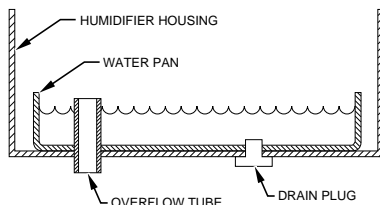

Fig. 12
3. Drain water from the unit. Place a pail underneath the drain plug located on the bottom of the humidifier cabinet. Lift the tab on the drain plug and remove the plug. Allow all water to drain from the unit. (See Fig. 12.)
- Clean the water pan and unit cabinet. Tilt the water pan and lift it from the unit. Wash the pan with warm, soapy water. Flex the pan to loosen accumulated scale. Wash the unit interior, removing any accumulated deposits. Inspect the drain line to insure that no blockage has occurred. Clean as required. (See Fig. 12.)